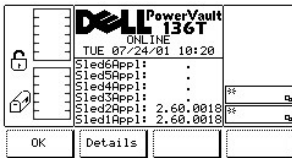

Figure 123. About > Details Dialog (secondary screen)
- 1 If the button beneath the **Details** softkey is pressed, the follow on dialog is displayed. See Figure 123.